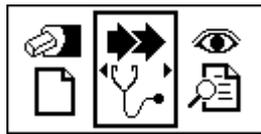
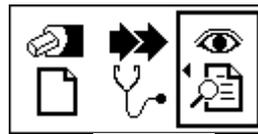

Fig. 63
Fig. 64
1. On this display shown below (Fig. 63), select [View Test Results]  by pressing ► key to display like (Fig.64).